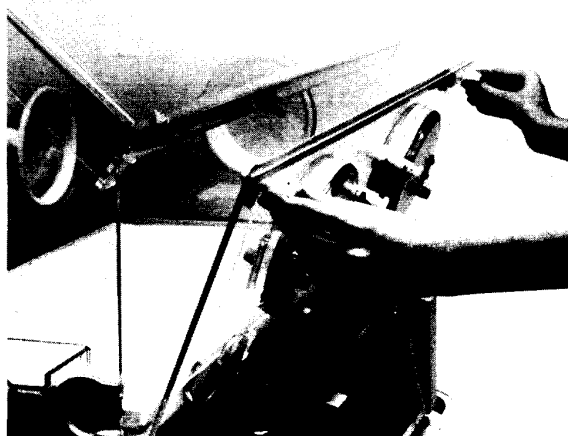

FIGURE 2.3 ACCESS PANEL OPERATION
7. CHECK ACCESS PANEL DETENT. Rotate both latch releases inwardly and open the Access Panel as shown in Figure 2.3; the Air Curtain Cover should rise slightly as the Access Panel opens, and the detents should create a noticeable "drag" during initial movement of the panel. Pivot the Access panel to the full open position (hanging straight down).